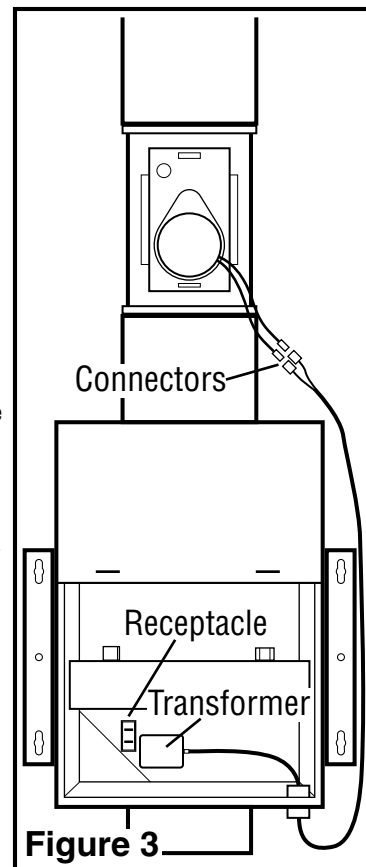

Figure 3
4. Remove the plastic cover from the receptacle inside the main unit housing. Plug the included 24VAC transformer into the receptacle and run the lead wires to the motorized damper. Make the electrical connections to the motorized damper by connecting the wires from the damper to the pre installed ends (Figure 3).